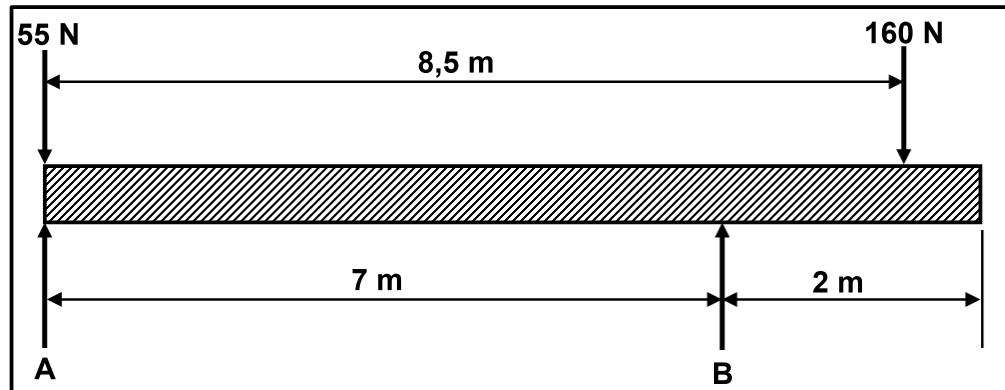

FIGURE 8.2
- 8.2 FIGURE 8.2 below shows a uniform beam that is supported by two vertical supports, **A** and **B**. TWO vertical point loads are exerted onto the beam. Calculate the magnitude of the reaction forces in **A** and **B**.